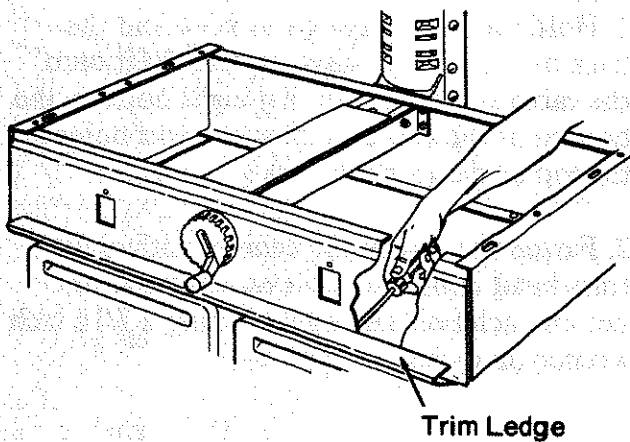

Fig. 70
2. Reach through the top of the *saw* and use four screws to fasten the *trim ledge* in place. Tighten using a Phillips screwdriver. (Figures 70 & 71)